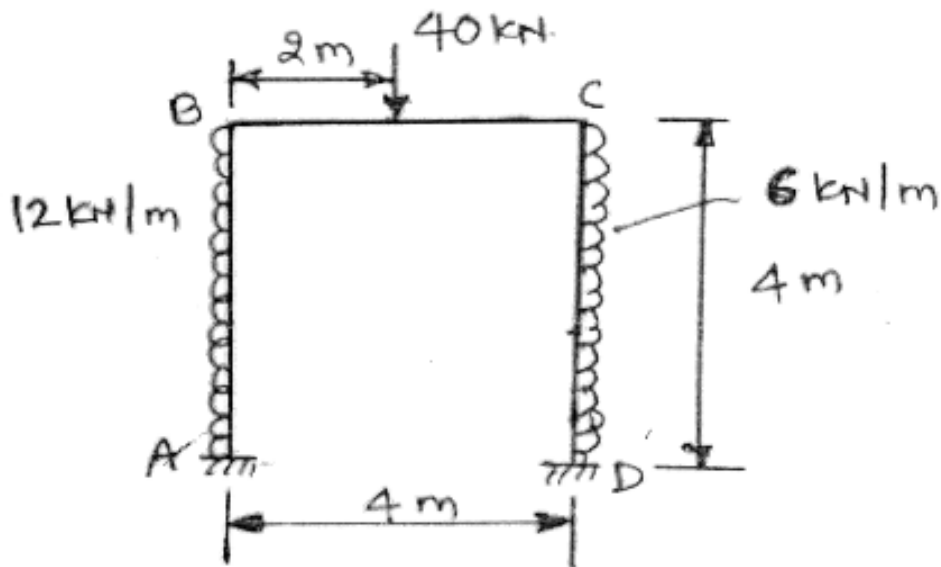

Fig. 8
8. Analyze the rigid jointed plane frame supported and loaded as shown in fig. by flexibility method and draw BMD. Refer Fig. 8